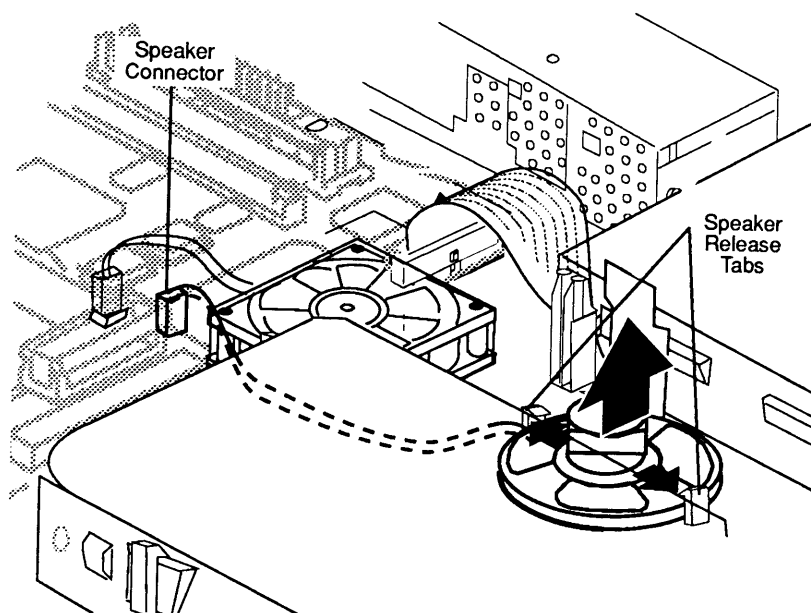

Figure 2-6 Removing and Installing the Speaker
3. Disconnect the speaker cable from the speaker connector (J25) on the logic board (**Figure 2-6**).
4. Release the plastic tabs on the sides of the speaker (**Figure 2-6**) and lift the speaker to remove it.
1. Slide the speaker under the front plastic tab that holds the speaker in place; pull back on the bottom tab (**Figure 2-6**). Push down on the speaker until it snaps into place.